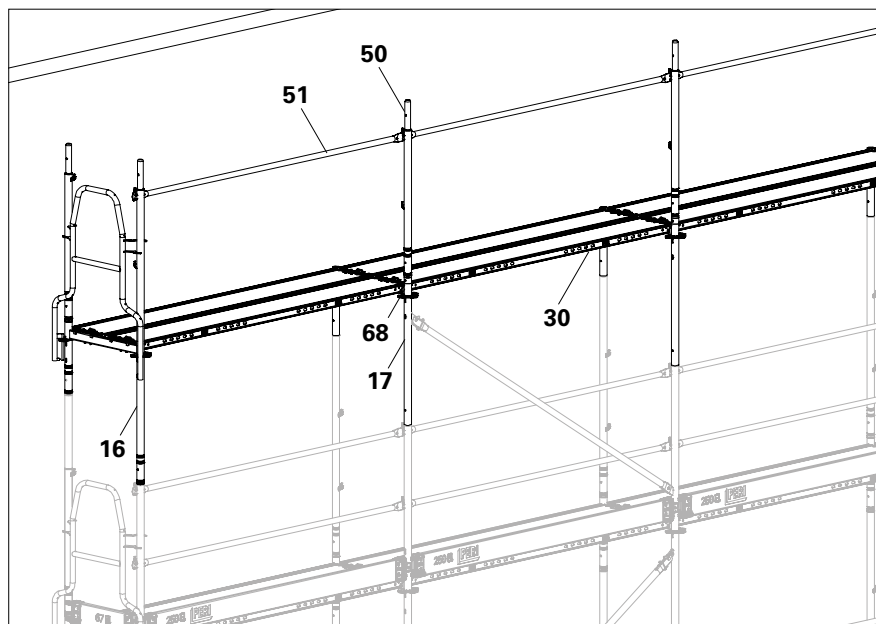

Fig. D2.04
- 1. Assemble the top level of the basic scaffold in the area of the roof overhang with Head Frame EVH (17), spigot with Spacer Tube URE (68), Guardrail Post EVP 100 (50) and Guardrail in Advance EPG (51). Assemble edge frames with Easy Frame EVF (16).
- 2. Install Steel Decks EDS (30) in the basic scaffold.
- (Fig. D2.04)